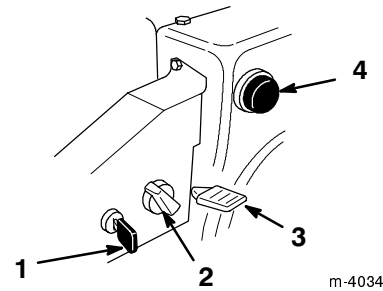

Figure 20
- **Ignition Switch (Fig. 20)**—Insert the key before starting the engine with the recoil starter. To stop the engine, remove the key.
- **Choke (Fig. 20)**—Rotate the choke clockwise to the *On* position to start a cold engine. As the engine warms up, gradually move the choke counterclockwise to the *Off* position.
- **Throttle (Fig. 20)**—Move the throttle upward to increase the engine speed and downward to decrease the speed. Move the throttle completely downward to stop the engine.
- **Primer (Fig. 20)**—Press the primer to pump a small amount of gasoline into the engine for improved cold-weather starting.
2. Remove the key from the ignition switch (Fig. 20).
3. Pull the choke knob off (Fig. 20).
4. Rotate the choke (Fig. 20) to the *On* position.
5. Insert the ignition key (Fig. 20).
6. Cover the hole in the center of the primer (Fig. 20) with your thumb and slowly push in the primer three times.
8. After the engine starts, immediately rotate the choke (Fig. 20) to the $3/4$ position. As the engine warms up, rotate the choke to the $1/2$ position. When the engine warms up sufficiently, rotate the choke to the *Off* position.
6. Close the fuel shutoff valve (Fig. 20).